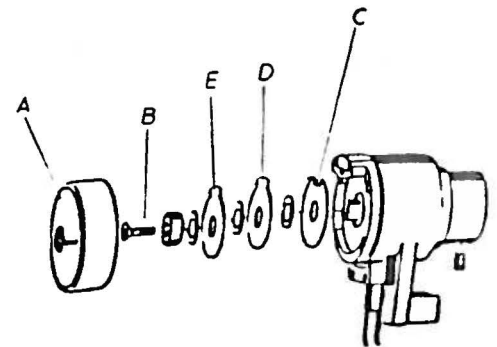
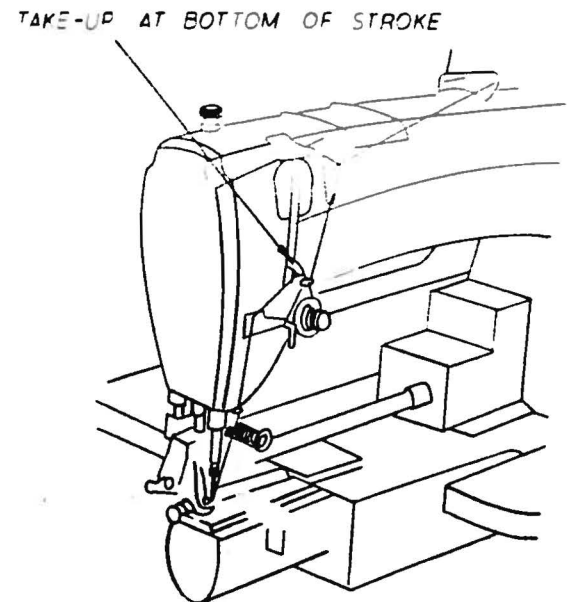

FIG. 3
FIG. 5
3. Turn handwheel in operating direction until take-up lever is nearly at the bottom of its stroke (Fig. 5) and the screw A (Fig. 6) in hook retainer is at top. Loosen set screw and turn tab disc E (Fig. 3) until tab is centered over shutter opening. Tighten set screw.